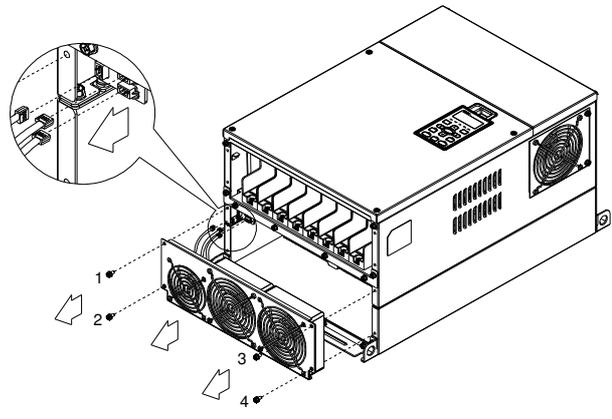

Figure 2
1. Loosen screw 1~4 (figure 2) and disconnect fan power and pull out the fan. (As shown in the enlarged picture 3) Screw1~4 『Torque : 24~26kgf-cm (20.8~22.6lb-in)』